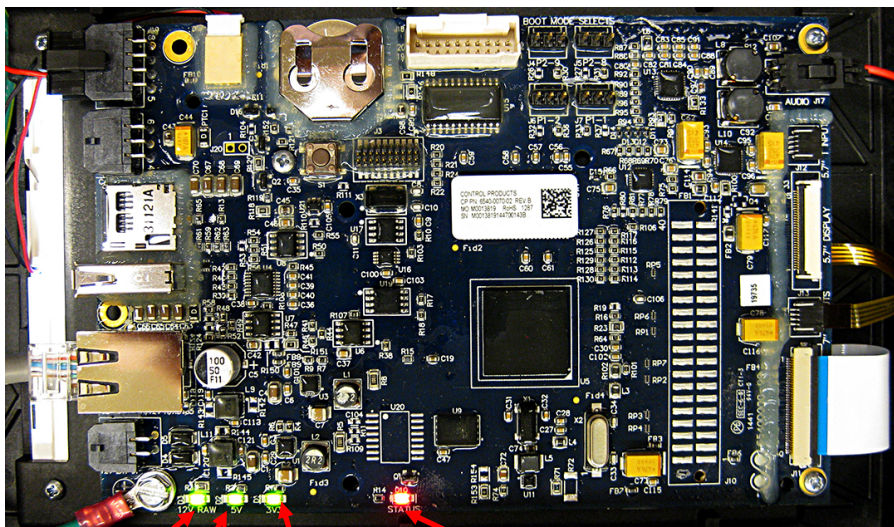

Figure 7
To verify that the FQ4000 has power and the touch screen is functional, remove the 2 screws attaching the controller to the bezel. Lower the controller to view the LED's on the read of the controller board. Verify that the three (3) green LED's are illuminated which indicate that 3V, 5V and 12V power is present on the controller. These should be illuminated at all times. Pressing anywhere on the front of the touch screen will illuminate the red LED STATUS (see Figure 7). The red LED will also illuminate momentarily during power up.